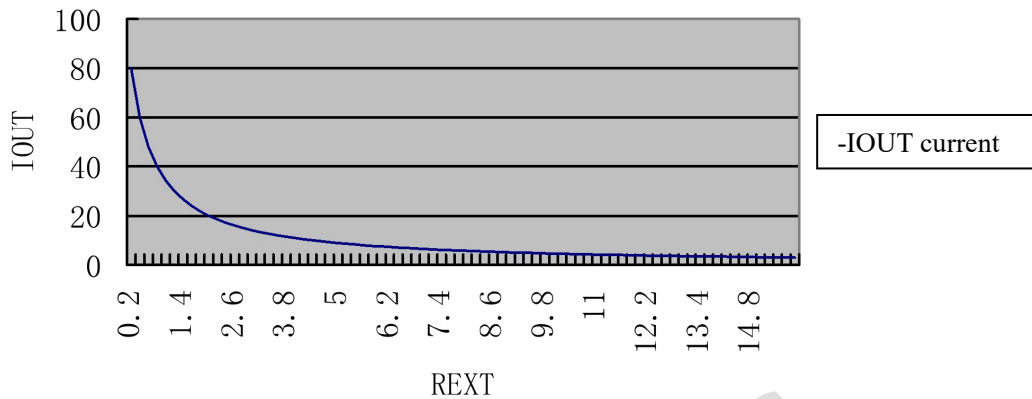

Figure 6
4. Application Figure 6: Application of External MOS Tube